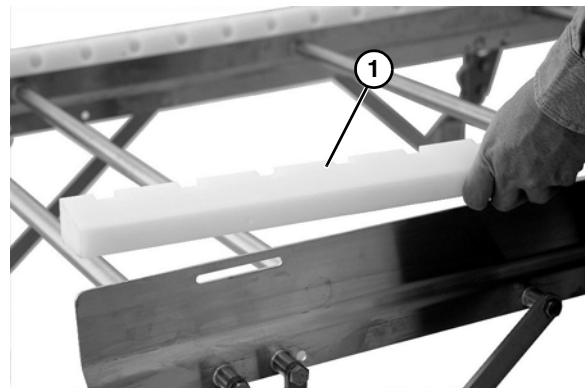

Figure 11
3. Remove the guides (**Figure 11, item 1**).